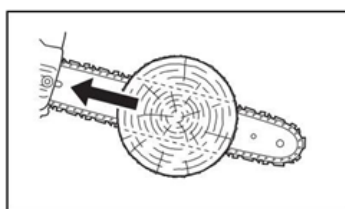

Fig 2
- Any of these reactions can cause you to lose control of the machine and come into contact with the moving chain, which could result in serious personal injury. As a chainsaw user, you must take several steps to keep your cutting jobs free of accidents or injuries (Fig. 2).